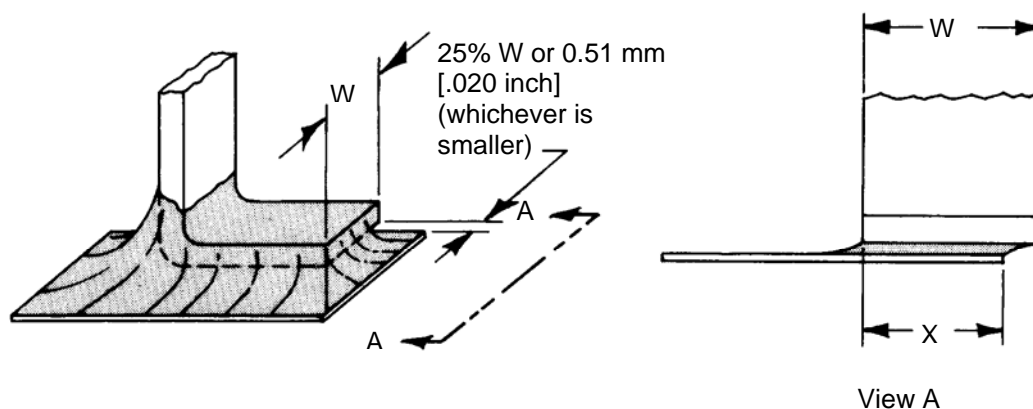

Figure 27
- A. Lap and "J" leads may extend off of side of pad by 25% of lead width or 0.51 mm [.020 inch], whichever is smaller, providing solder completely fills dimension X and minimum spacing requirements are not violated, Figure 27.